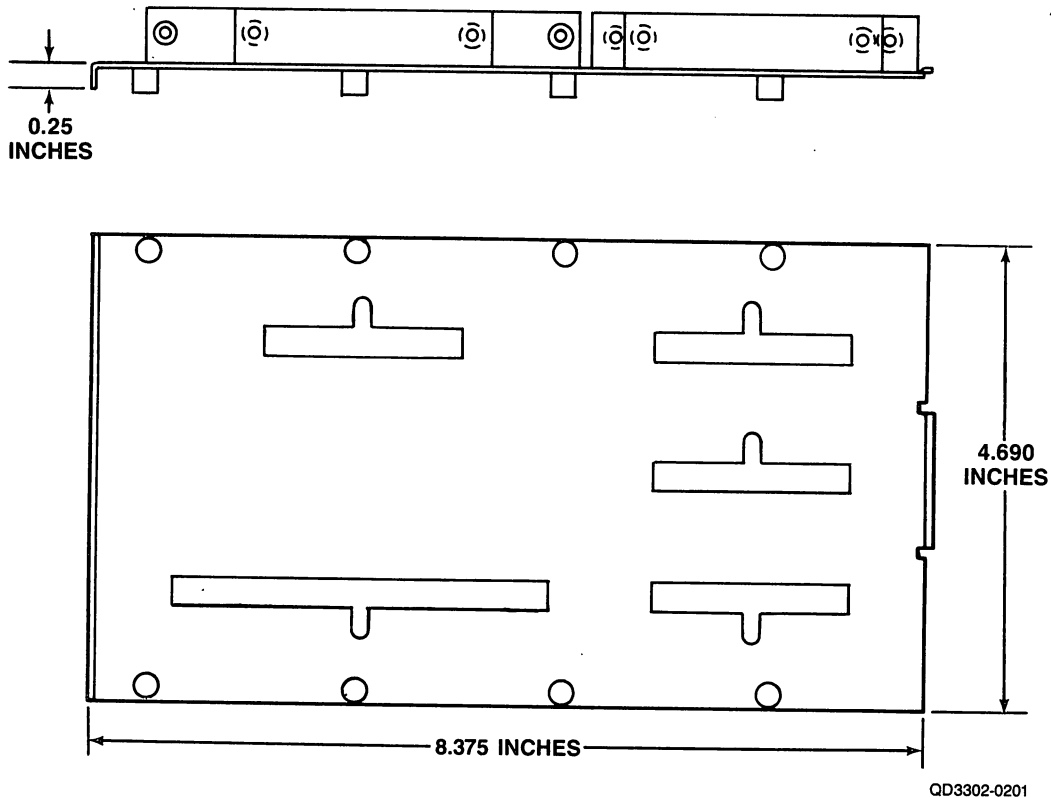
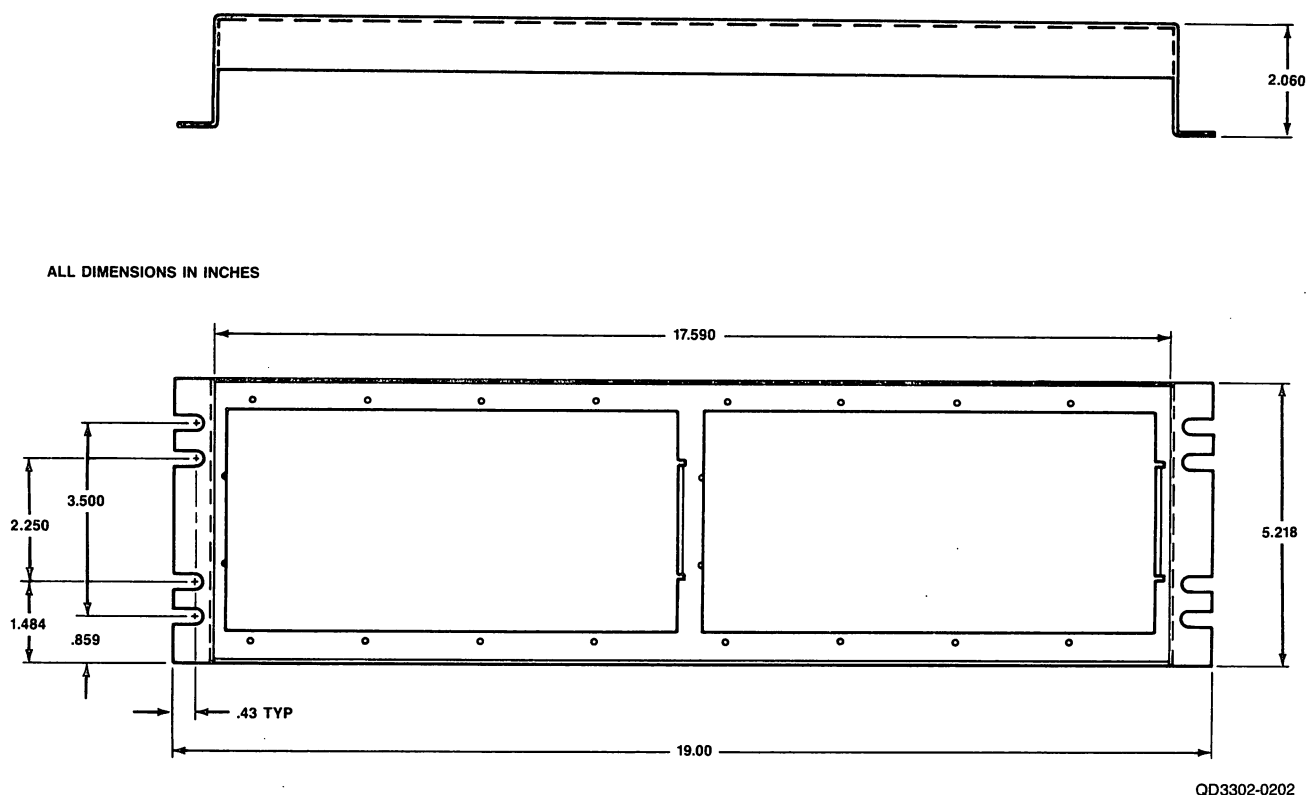

Figure 4-5. Cable I/O Adapter Panel
Figure 4-6. Rack-Mount Panel
The cable I/O adapter panels are designed to fit directly into the I/O bulkhead that is built into most FCC-compatible DEC CPU expansion cabinets. See Figure 4-5. If there is no I/O bulkhead in the cabinet, item 6, the rack-mount panel, holds two cable I/O adapter panels and mounts in any standard 19-inch RETMA rack. The rack-mount panel is shown in Figure 4-6.
11. Route one end of the prepared cable through the widest slot in the cable I/O adapter panel (see detail in Figure 4-5). Clamp the bare shielding against the cable I/O adapter panel with the clamping bar.